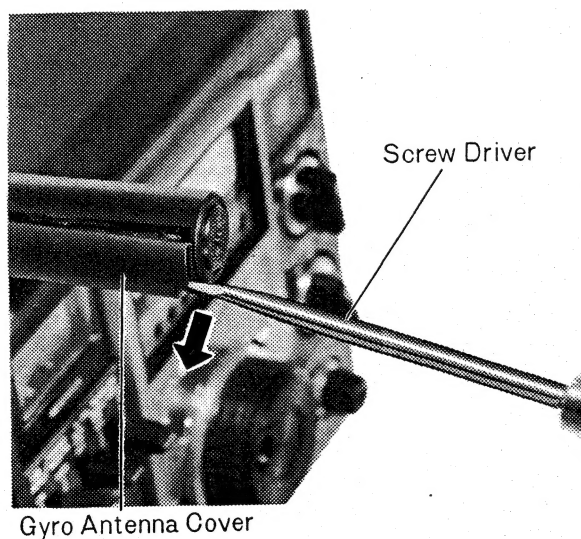

Fig. 18
1. Remove the gyro antenna cover in the direction of arrow, as shown in fig. 18.